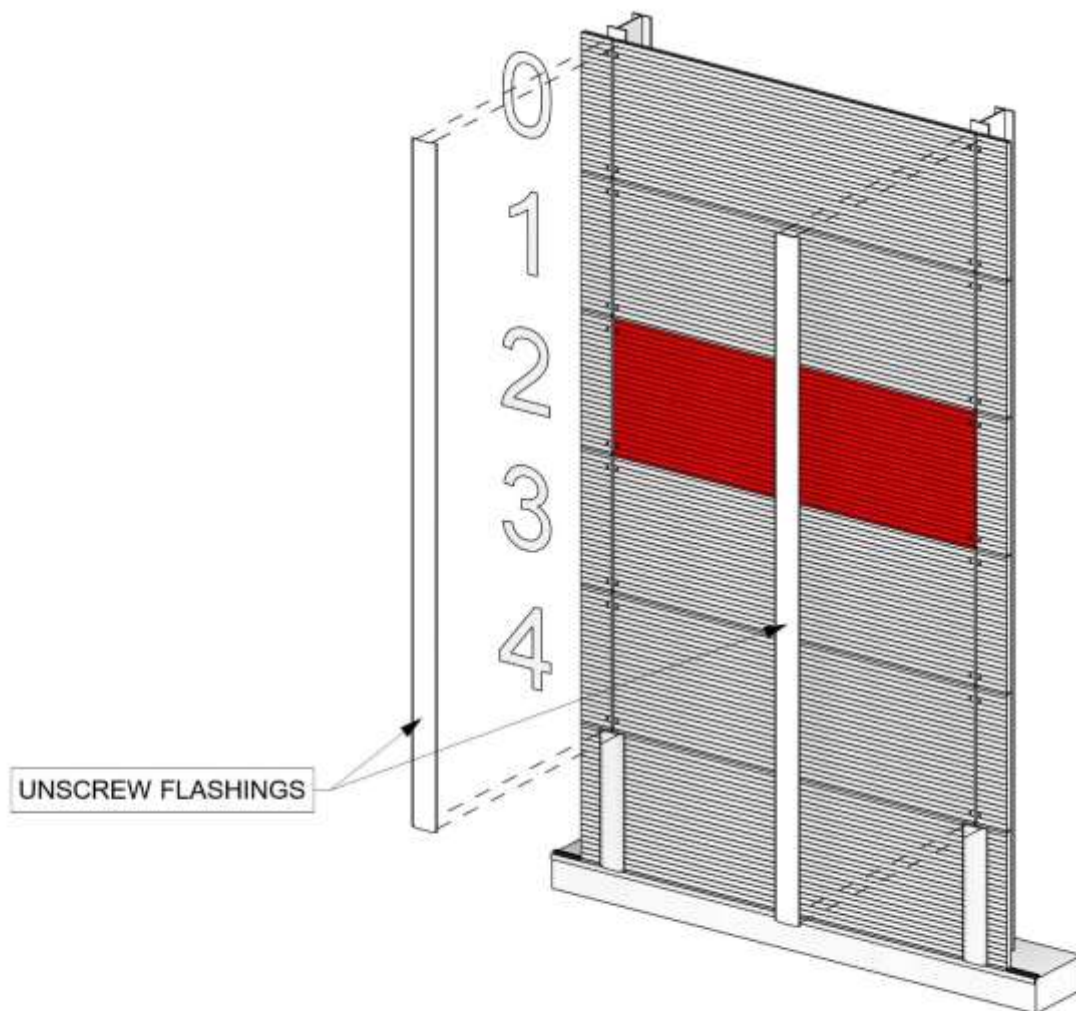

Fig. 13.2
STEP 1. Unscrew flashings that are covering panels 0, 1, 2, 3 and 4 (Figure 13.2).